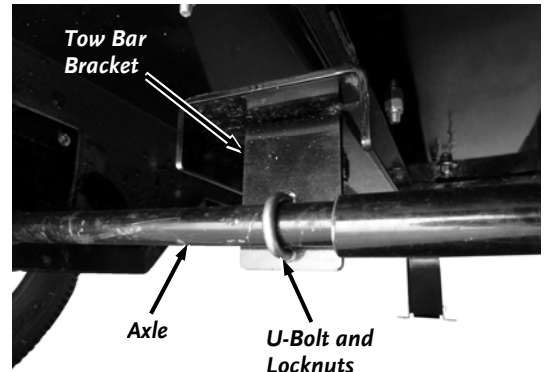

Figure 5
2. Secure the Bracket at the rear of the Tow Bar to the Axle with a U-Bolt and two Locknuts using a 7/16" Wrench. (**Figure 5**).